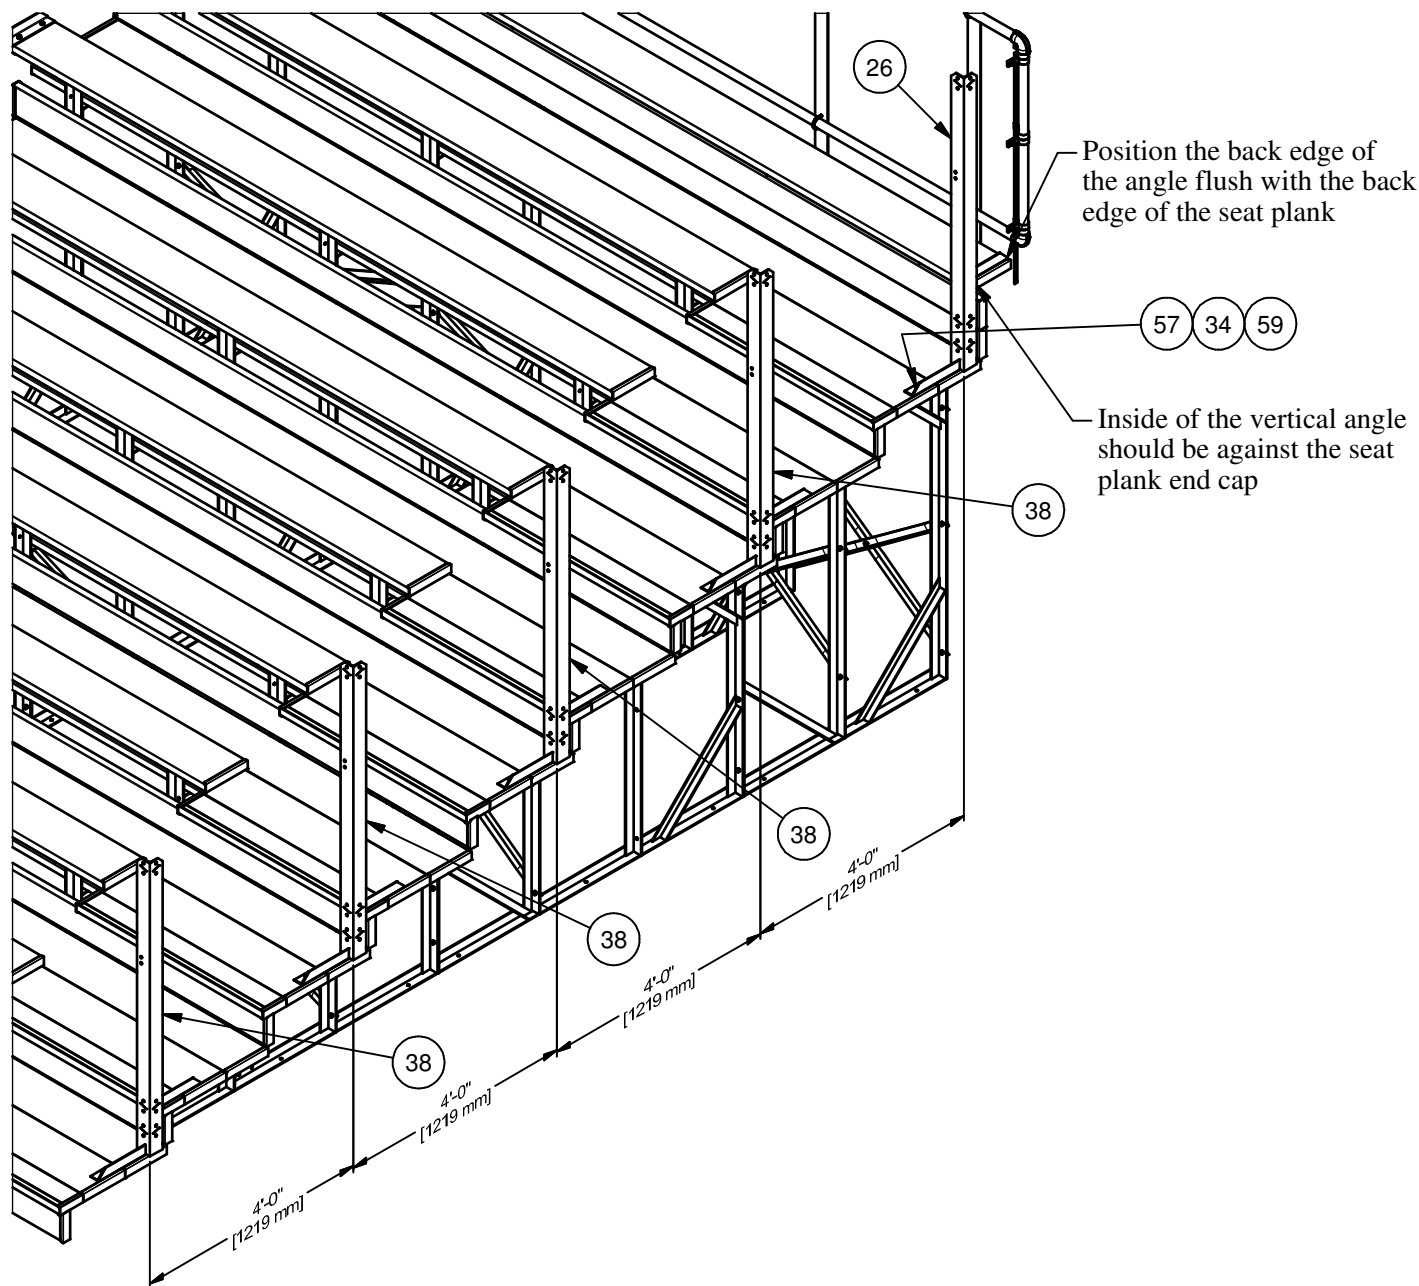

Figure 13
19. Install the LH side rail weldments onto the aisle end of the bleacher. Locate one seat vertical on the top row and four aisle verticals on the 8th row, 6th row, 4th row, and on the 2nd row. Position the verticals as shown in Figure 13. On the top row vertical, use the holes in the angles as guides and drill the four 3/8" holes through the seat plank (2 holes) and the foot planks (2 holes). On the remaining verticals, use the holes in the angles as guides and drill the four 3/8" holes through the foot planks (2 holes each level).